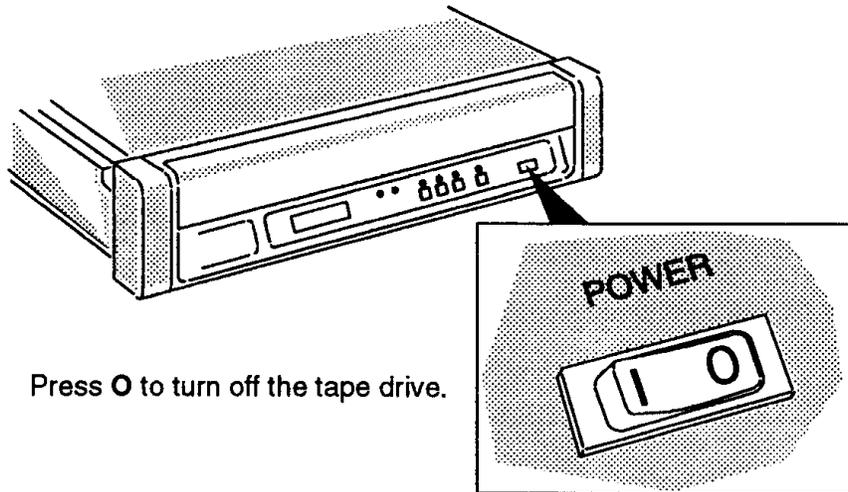

Figure 3-1 Power Switch Location
1. Before plugging in the tape drive, switch the power switch to the OFF position as shown in Figure 3-1.